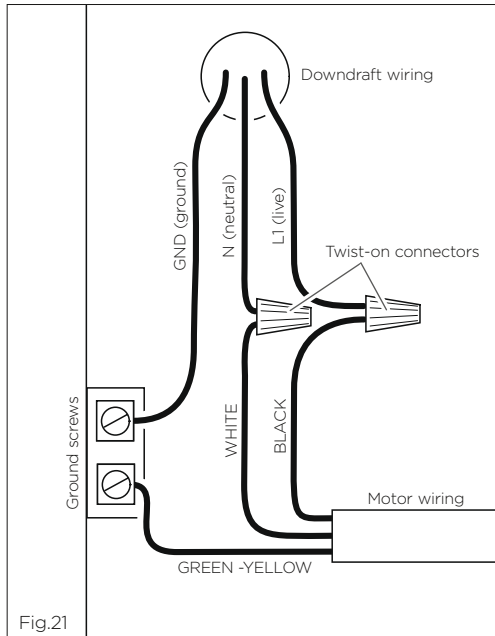

Fig.21
- Connect the N (neutral) wire to the white wire in the wiring box with twist-on connector Fig.21.
- Connect the L1 (live) wire to the black wire in the wiring box with twist-on connector Fig.21.